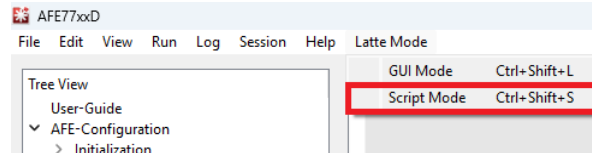

Figure 3-5. Switching to Script Mode
3. At the top, click on Latte Mode and navigate to Script Mode, as shown in Figure 3-5.